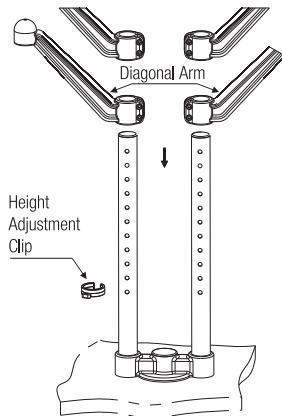

Fig. 2
3. Clip the height adjustment clip on to one of the holes on the vertical pole and slide the diagonal arm on to the pole from top till the bottom face of the arm rests on the height adjustment clip as shown in Fig. 2. Repeat this until all four arms are fitted.